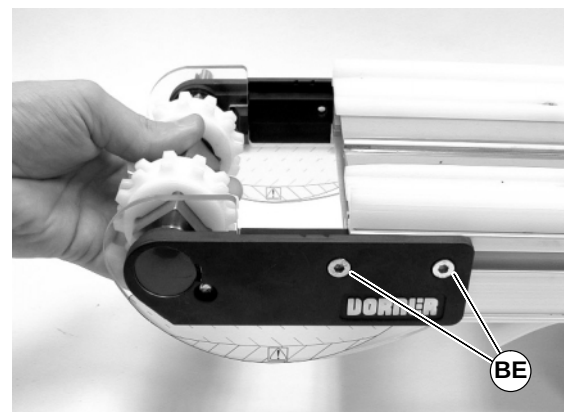

Figure 35
1. On both sides of conveyor, loosen two (2) fastening screws (BE of Figure 35). Then slide drive pulley assembly out from the conveyor frame.